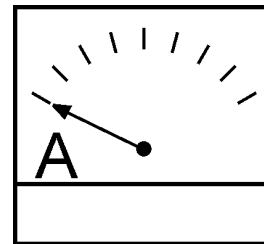

Figure 51. Ammeter (No Load)
10. The ammeter (Figure 51) will indicate **zero amps** with no load applied. When a load is applied, the ammeter will indicate the amount of current that the load is drawing from the generator.